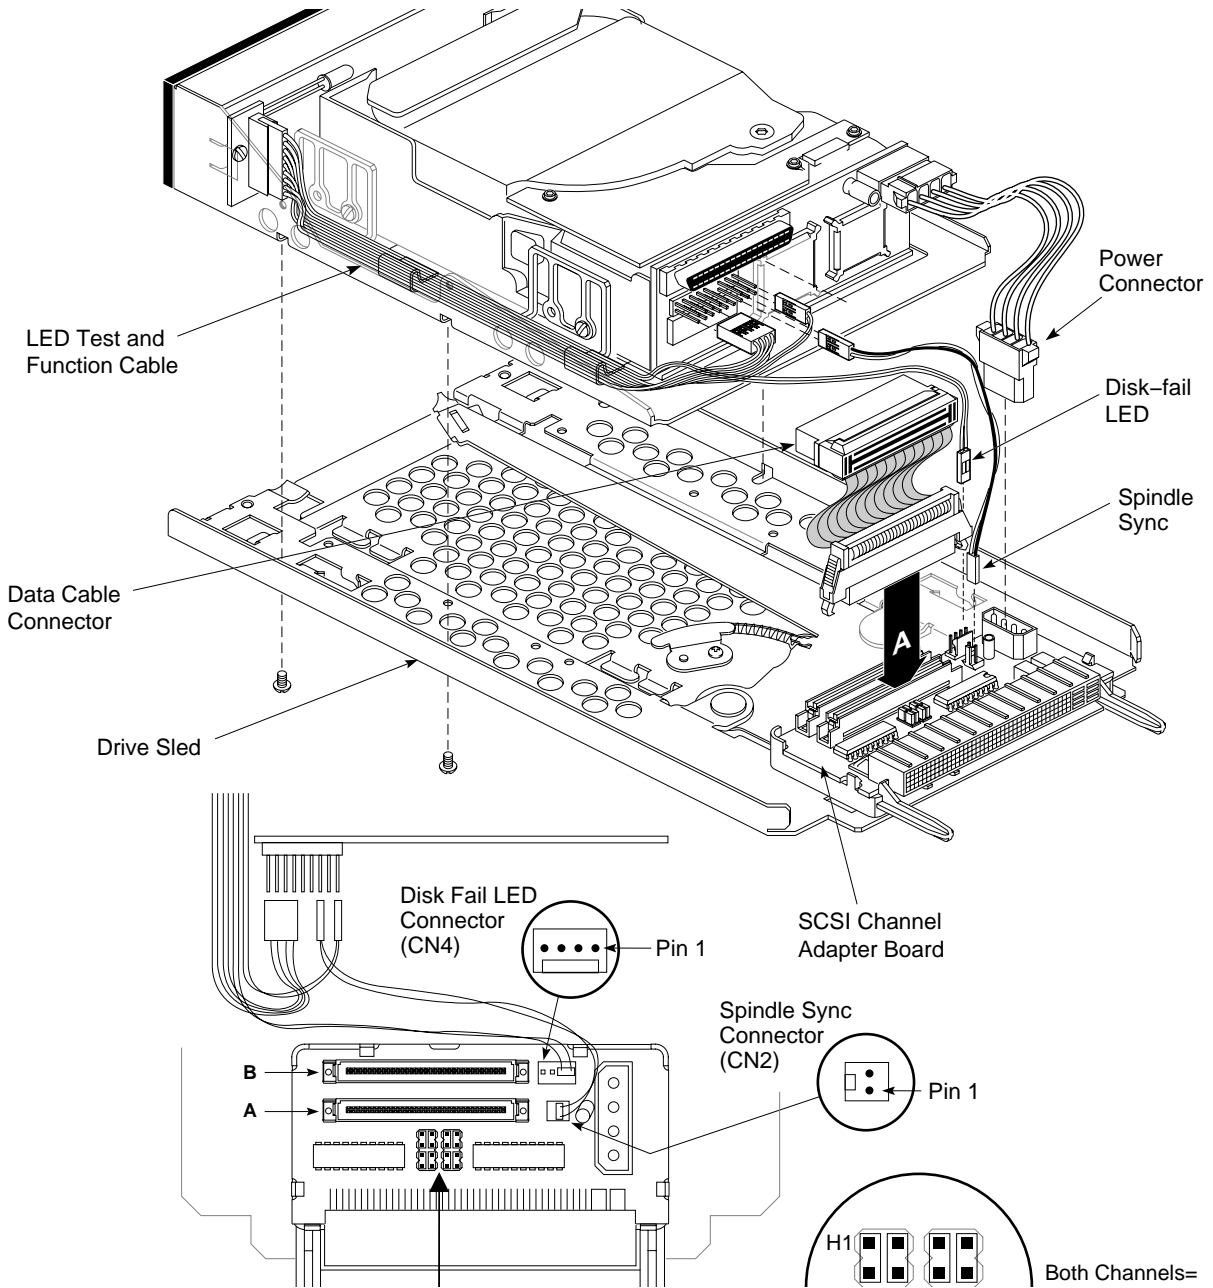

Figure A-3 Configuring the Converted Disk
7. Plug one end of the 68-pin bridge cable into channel A on the adapter board and the other into the back of the disk, then reconnect the power plug to the disk. See Figure A-3.
8. Plug a spindle sync cable onto position CN2 on the sled adapter board with the red wire on pin 2, closest to the disk drive. Refer to Figure A-3. Connect the other end to the row header at position 6 (third from the right) on the nine-row header on the rear of the 2.0 GB disk. The red wire must be in the lower position. See Figure A-4.